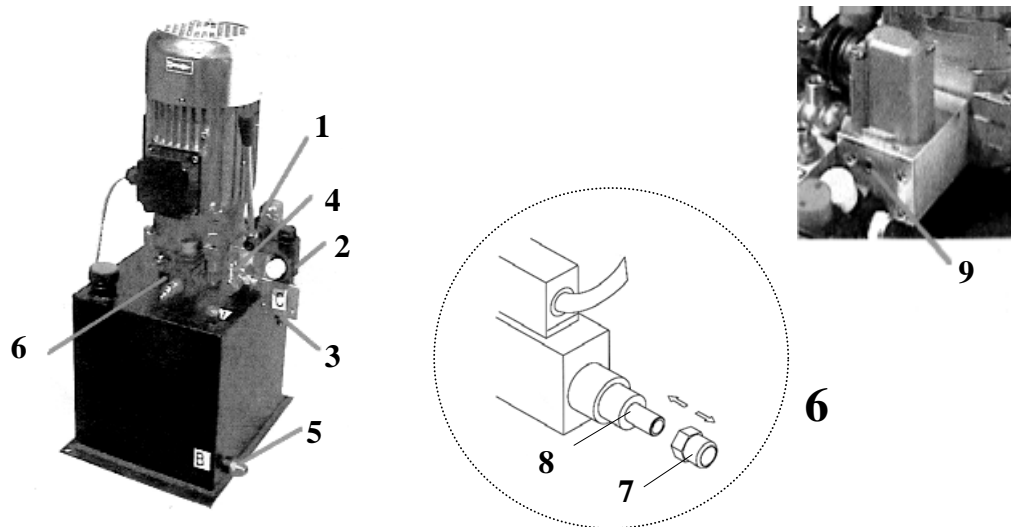

Figure 12 - Hydraulic unit with manual pump and lowering valves. To lower the lift in the event of a malfunction
- Bleed the manual pump for emergency lowering: open the vent screw (Figure 12, Item 9) and press the UP key until the hydraulic oil emerges at the vent screw. Now close the vent screw.
- Open the front panel of the control desk, and press the valve A upwards using a thin screwdriver or a pin punch. At the same time, pump the manual pump (Figure 12, Item 1) until the lift is raised slightly (for bleeding of the manual pump, see Section 6.1), and the gear racks disengage.
- Unscrew the cap nut (Figure 12, Item 7) on the valve (Figure 12, Item 6). Release the lock nut from the adjusting screw from underneath and drive the screw in completely using a suitable socket screw wrench (hex. socket 3mm), the runways lower to the final bottom position.